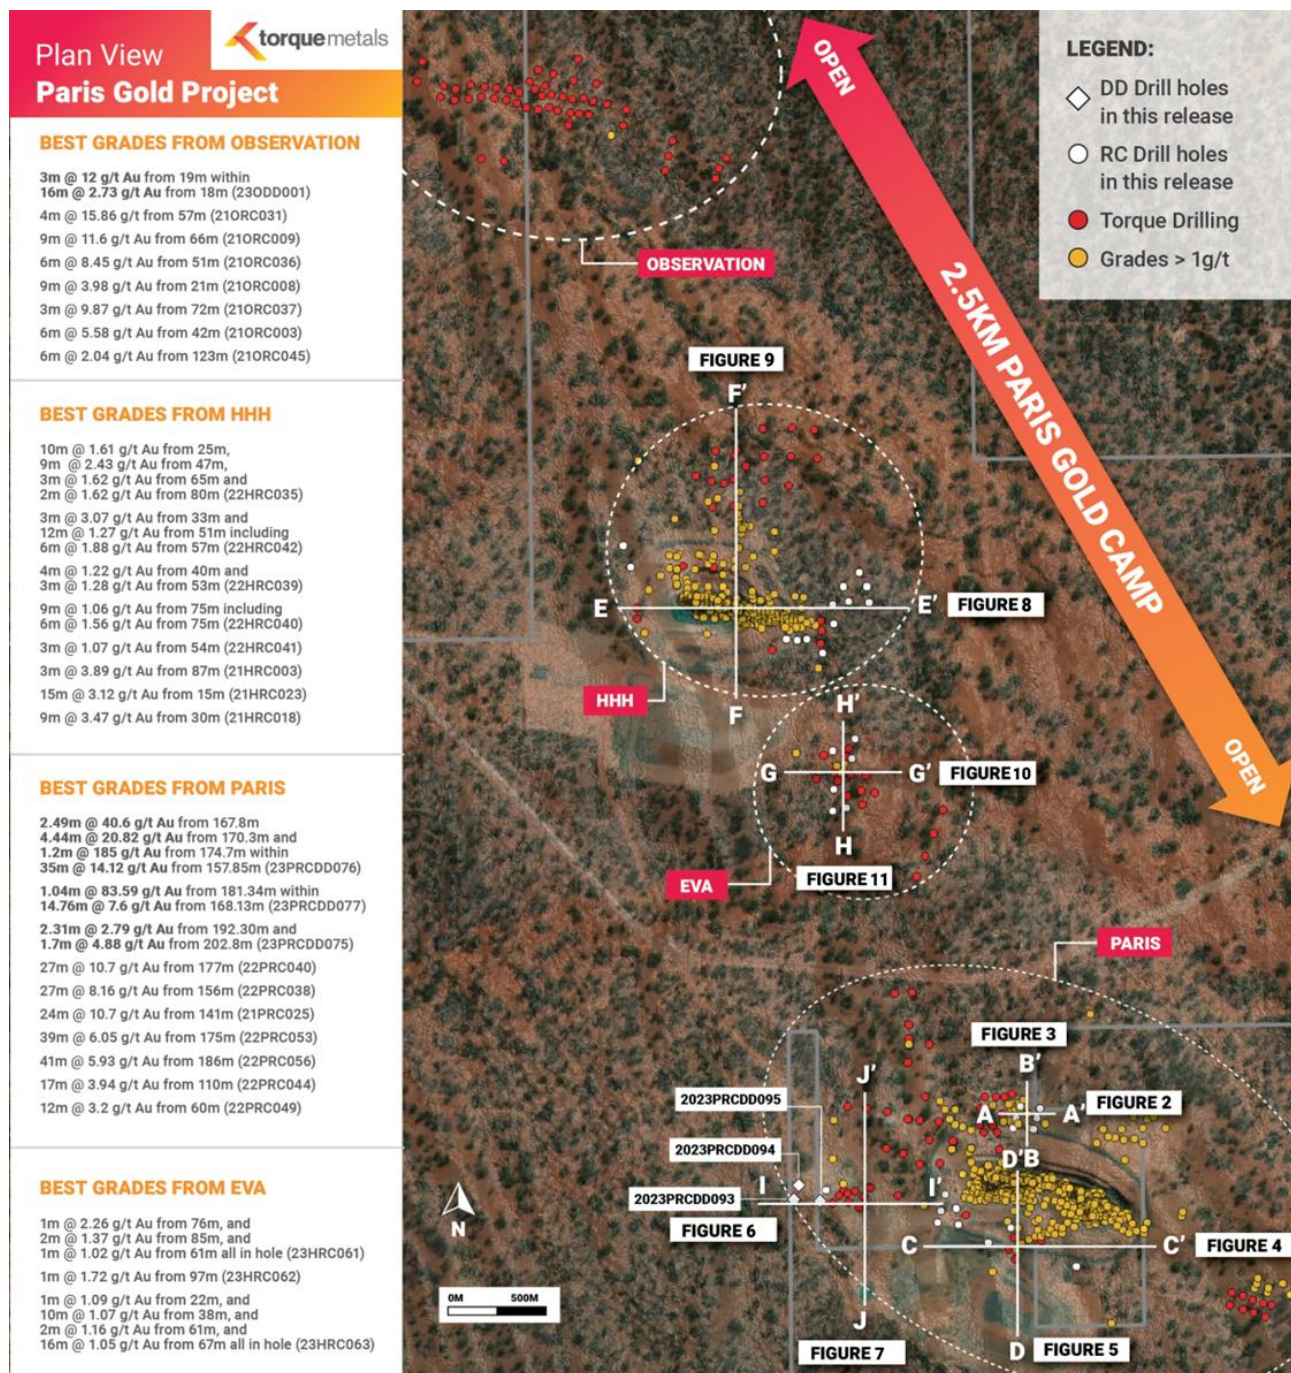

Figure 1 Paris gold camp. Drill hole locations and assay results from this programme.
Torque Metals Limited (ASX: **TOR**), WA Exploration Company, is pleased to announce gold assay results from recent drilling at its wholly owned Paris Project located 90km SE of Kalgoorlie and 12km SE of St Ives gold mine (Figure 1).
Torque Metals received assays from recent reverse circulation (RC) and diamond drilling (DD) in the immediate vicinity of Paris and HHH prospects. The work was designed to extend mineralisation boundaries of the Paris gold systems (Figure1). These results achieved that aim and illuminated two new mineralised zones for further exploration.